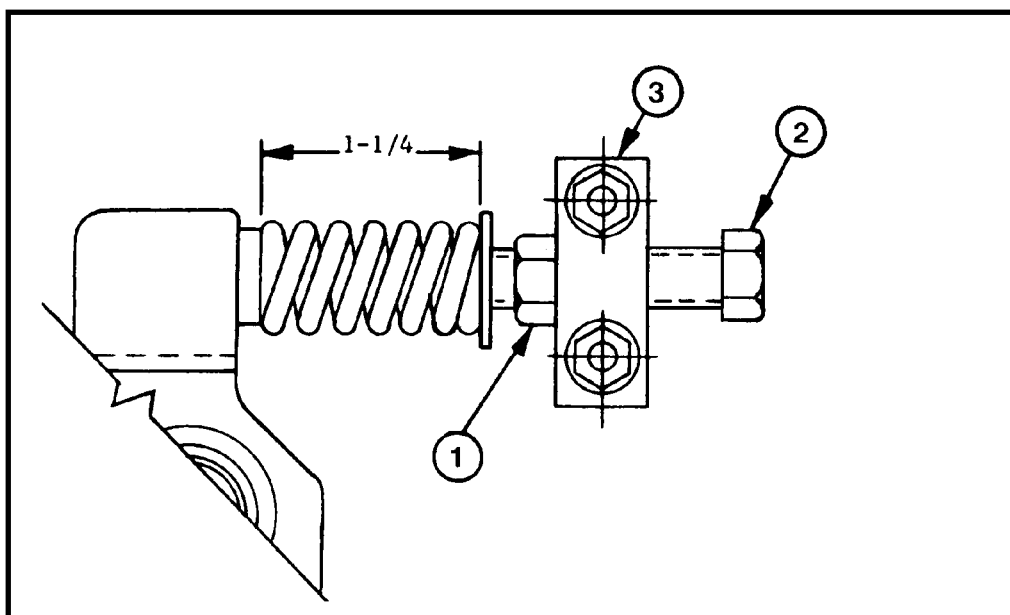
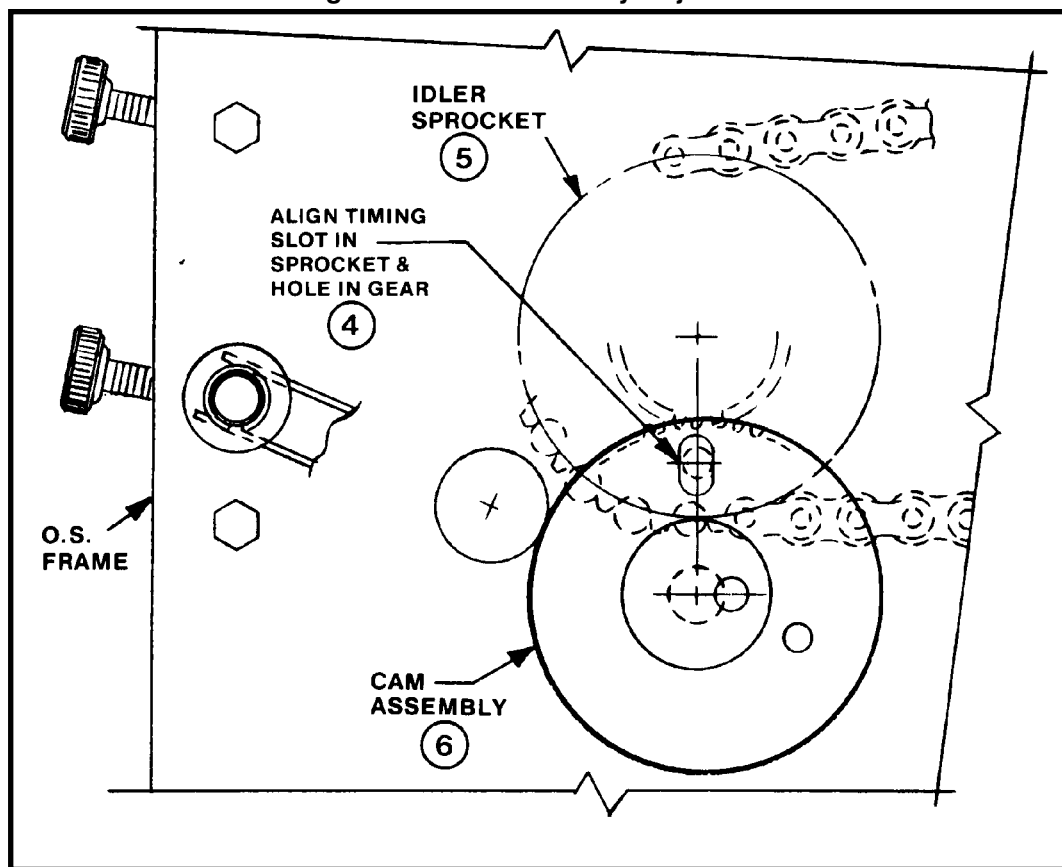

Figure 61 - Chain Delivery Adjustment
Figure 62 - Chain Delivery Timing
1. Check the tension of the compression spring (operator-side and non-operator-side). The tension is correct if the dimension is 1-1/4" (see Figure 61). If necessary, adjust by performing the following steps.
- a. Loosen nut (1).
- b. Set adjusting screw (2) so that the compression springs are compressed to 1-1/4" long.
- c. Tighten nut (1) against block (3).
- b. Ensure that the timing holes in the sprocket and gear are approximately in the position shown (4) and are in-line with each other within one gear tooth space (see Figure 62).